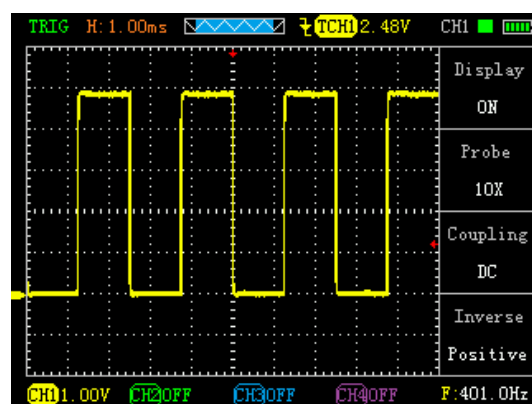

Figure 2-8
- If you set the vertical direction 1.00V/div, the steps in the above example. As Figure 2-8